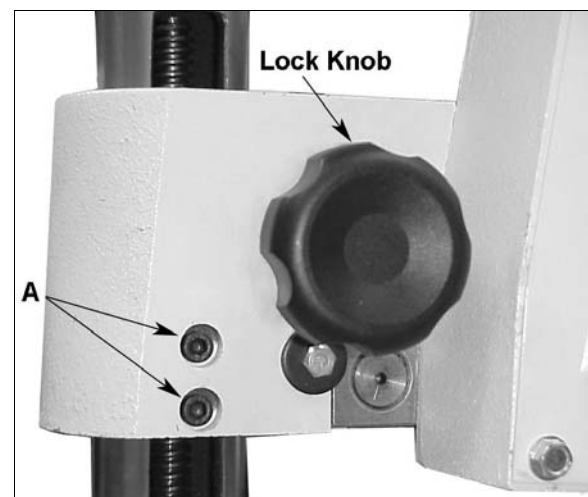

Figure 26
2. Locate the two socket head cap screws in the table casting for each of the columns (A, Fig. 26). Loosen both sets of screws for each column on the side you wish to adjust.